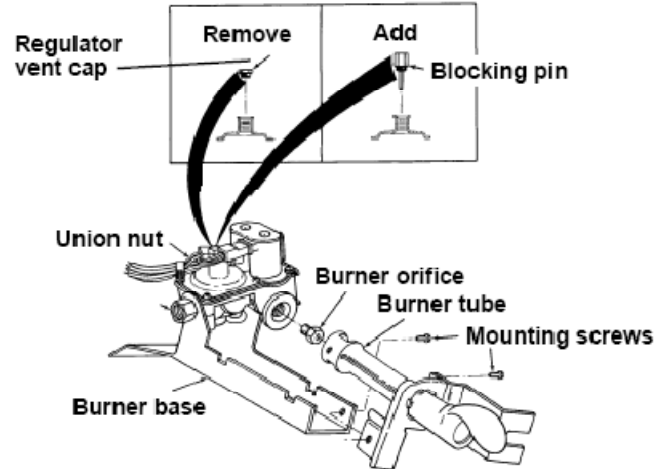

FIGURE 4
- Remove the burner tube from the burner assembly by removing two (2) screws securing it to the burner base. See *Figure 4*.
- Remove the burner orifice from the valve and replace it with the proper orifice furnished in this kit. Orifice number is stamped on one edge of the hex head of orifice. Securely tighten. See *Figure 4*.
15. Remove the regulator vent cap (leak limiting device) from the pressure regulator. See Figure 4.
16. Install the new blocking pin finger-tight. Do not tighten more than 1/8 turn to seal it. See Figure 4.
- Check that the regulator vent cap has been replaced by the blocking pin as in Figure 4. (Style "A" application only)